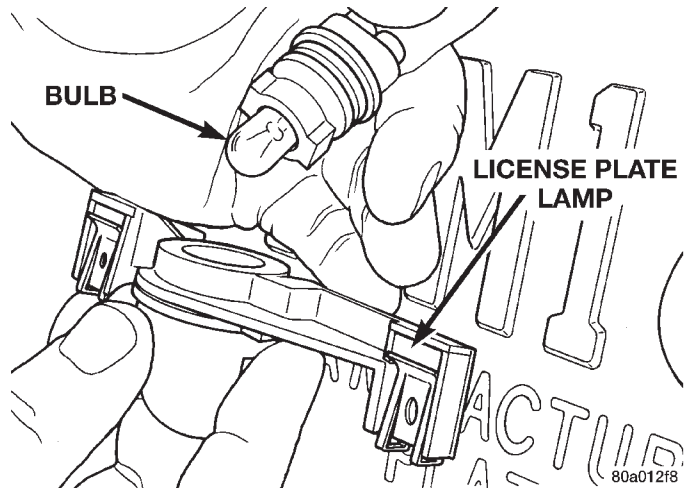

Fig. 8 License Plate Lamp Bulb
- (1) Remove screws holding license plate lamp to rear bumper fascia.
- (2) Separate license plate lamp from rear fascia.
- (3) Rotate socket counterclockwise one quarter turn.
- (4) Pull socket from back of lamp (Fig. 8).
- (5) Pull bulb from socket.